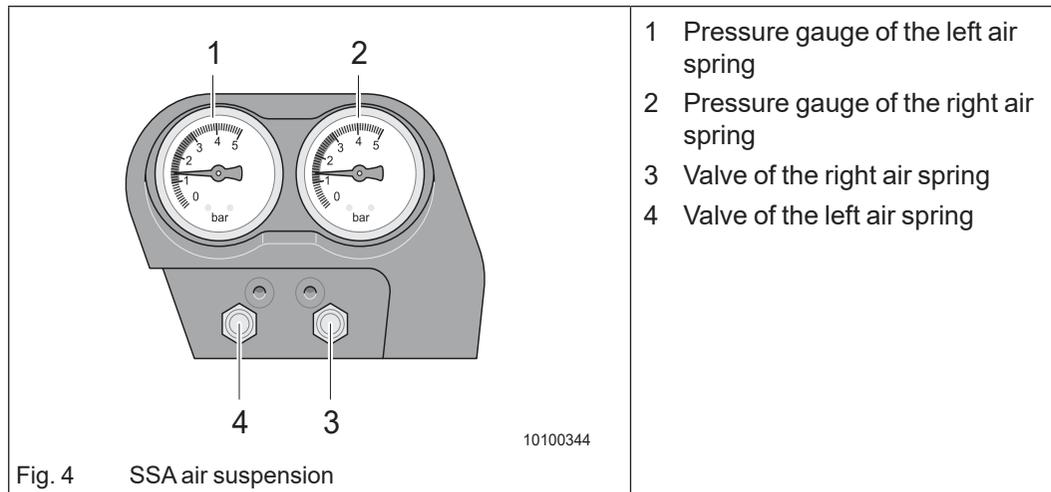

Fig. 4 SSA air suspension
- ➔ Read the pressure for the respective spring at the corresponding pressure gauge (Fig. 4/1 and Fig. 4/2).
Use a compressor (at a filling station or a 12-volt hand-held compressor) to fill air into the valves (Fig. 4/3 and Fig. 4/4) until the vehicle is level.